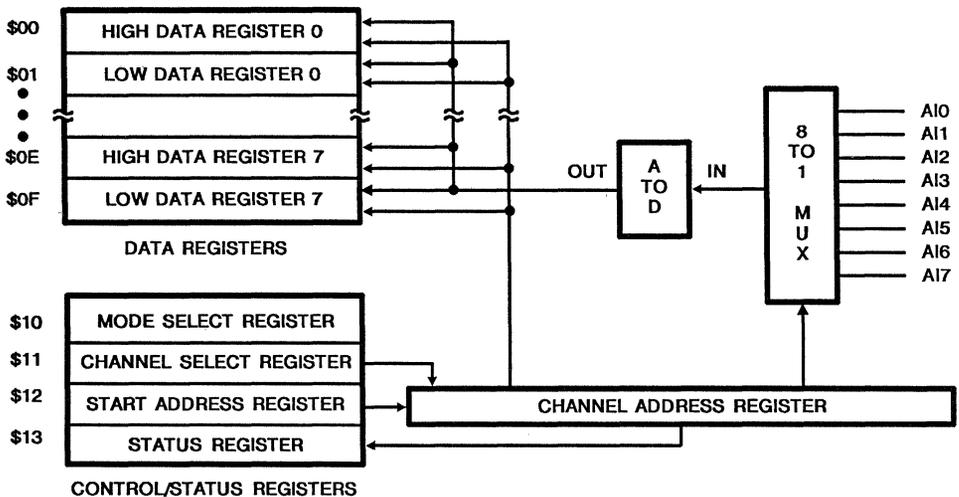

FIGURE 2. A PROGRAMMER'S MODEL OF THE CDP68HC68A2
From the programmer's perspective, the A2 is comprised of three control registers (Mode Select Register - MSR, Channel Select Register - CSR, and Starting Address Register - SAR), a status register (SR), an array of eight pairs of Data Registers, and one non-addressable, internal register (Channel Address Register). See Figure 2.
The format of the address/control byte is shown in Figure 5. The most significant bit is the  $\bar{R}/W$  bit. When  $\bar{R}/W$  is 0, read operations are to be performed. If  $\bar{R}/W$  is 1, write operations are to be performed. A0 through A4 specify the register to access. Data Registers are mapped to address \$00 through \$0F. The Control and Status Registers are at locations \$10 through \$13 (see Figure 2.).